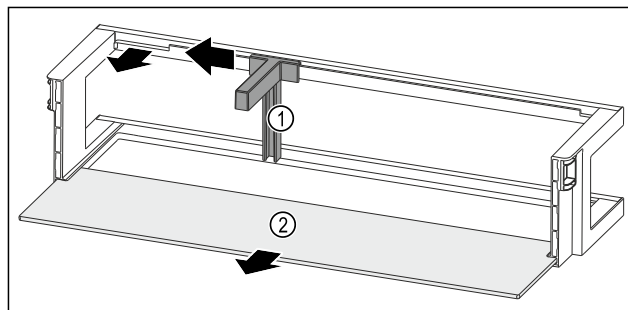

Fig. 111 Door racks with bottle holder and shelf
- ▶ Push the bottle holder Fig. 111 (1) to the side up to the recess.
- ▶ Remove the bottle holder Fig. 111 (1).
- ▶ Remove the shelf Fig. 111 (2).